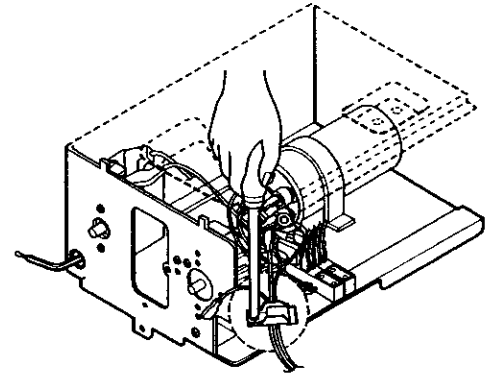

Figure 51
5. Remove a screw which fastens the clip cord. (See Figure 51)